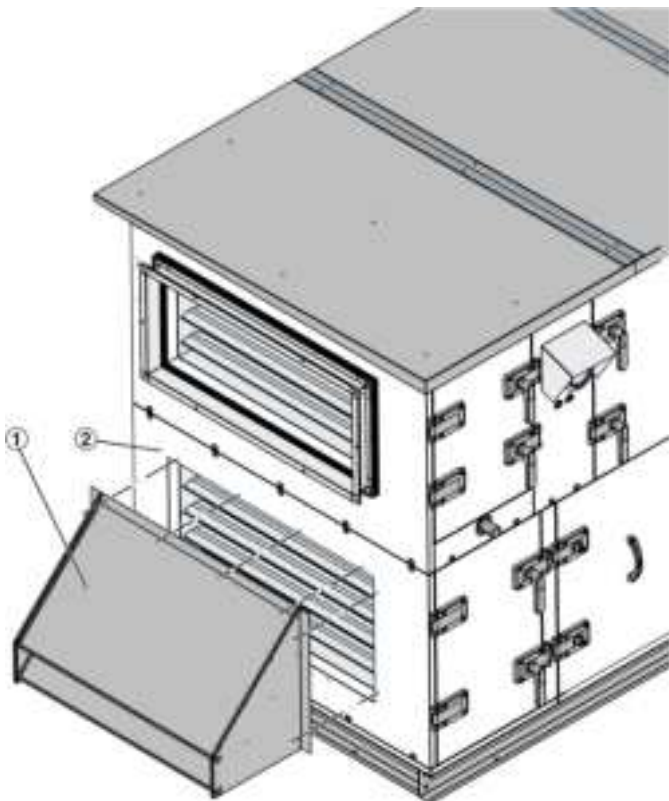

Fig. 23: Positioning the weather hood
- ▶ Position the weather hood (Fig. 23 /2) flush with the hole pattern on the panel (Fig. 23 /1) and screw on with pan head screws (M6x12).